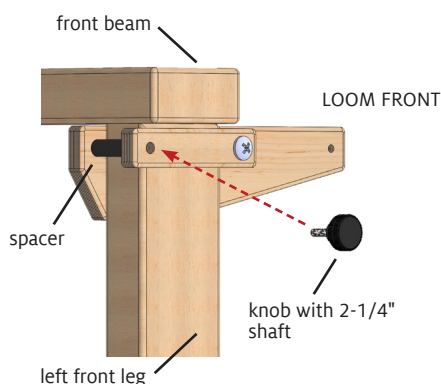

FIGURE 3: INSTALL CLAMP BLOCK
5. Place the connected rod supports and clamp blocks around the front legs of your loom, with the clamp block on the outer side and the rod support on the inner side of the front leg, as shown in Figure 3.